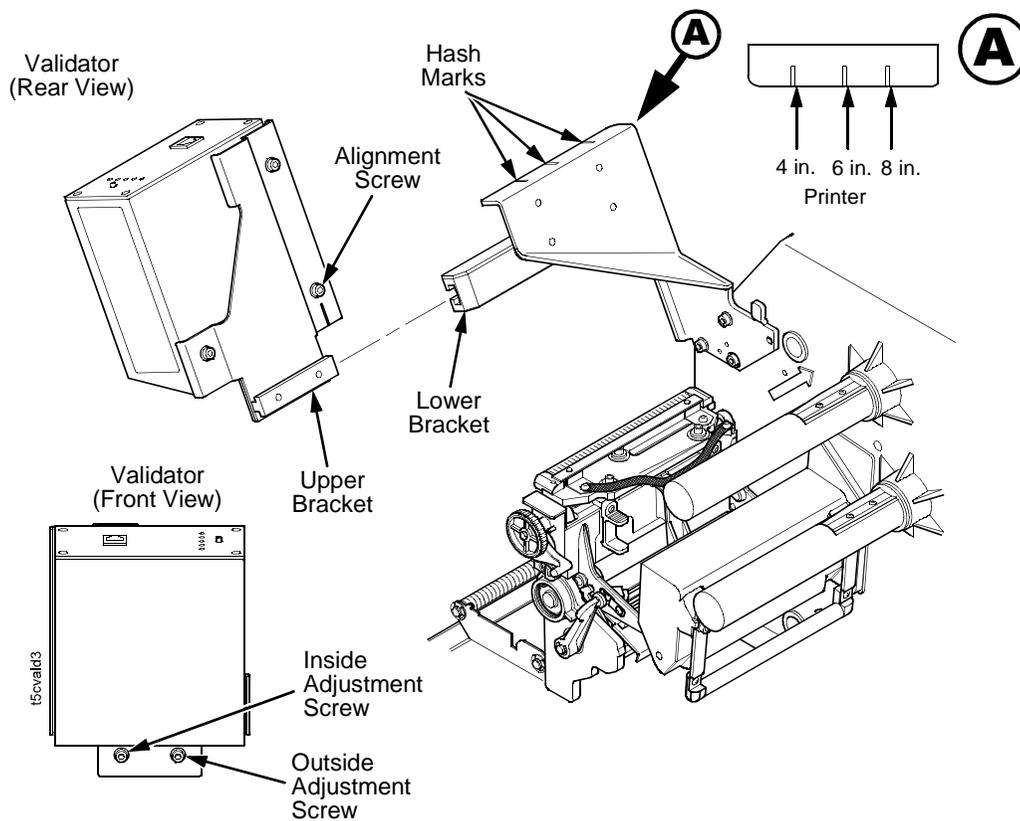

**Figure 8. Installing the Lower Bracket**
1. Using three of the four M4x10mm screws, install the lower bracket as shown in Figure 8.